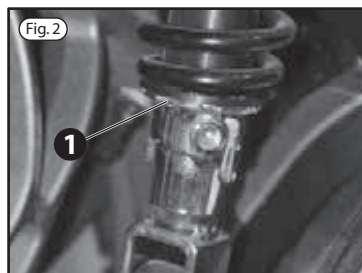

Fig. 2
- Adjust the throttle control play by means of adjuster 1 (fig.2 carburetor) (fig.3 injection).
- Register the minimum 2 (fig.2 carburetor) (fig.3 injection) on the reference screw.
- Pull out the battery 2 (fig. 2).